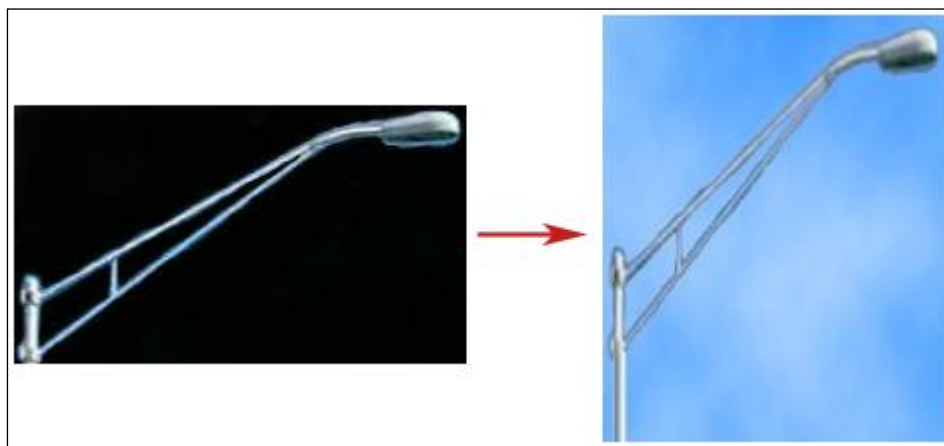

Figure 285 Original TGA file vs. its representation in a 3D View
- To add any object (i.e.: advertisements) drawn in a tga or png file. This is especially useful when adding textures that have a transparent component. Figure 285 provides an example of drawing a realistic streetlamp using a tga texture.